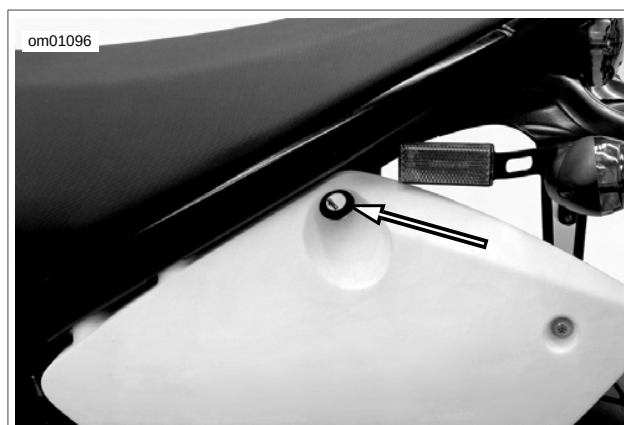

Figure 2-187. Seat Lock Location: XB12STT Model
- See Figure 2-187. The seat lock is not attached to the number plate and does not need to be removed when removing the left side number plate.